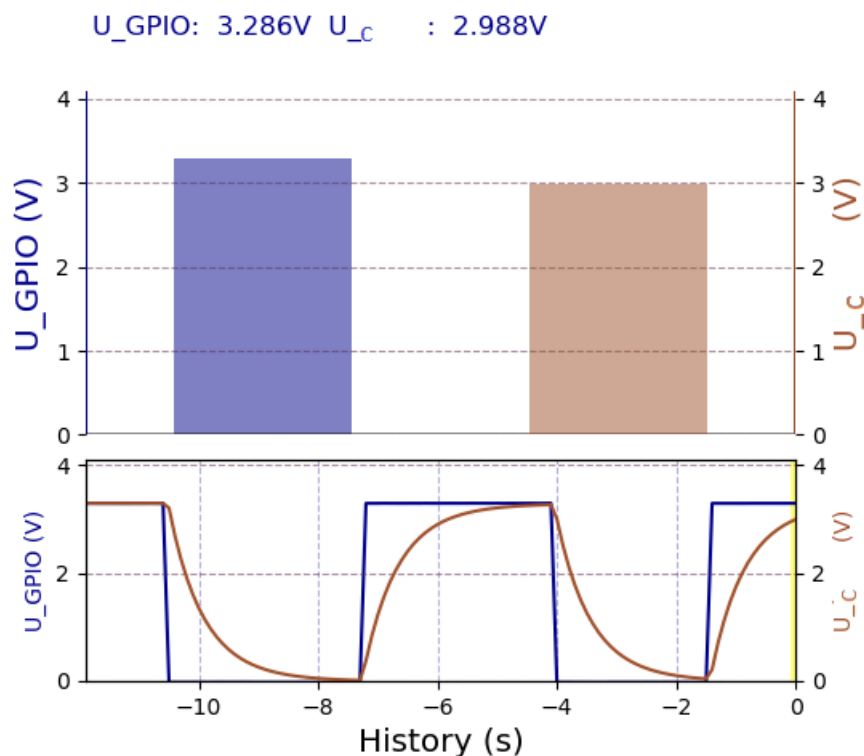

Figure 4. The step voltage pulse generated by the LDR Operated Switch at two pins of the Raspberry and the voltage across the capacitor.
- The values of the LDR resistance fall in bright light causing the enhancement of the voltage across the capacitor during the charging process. The response signal at the GPIO-Pins of the Raspberry Pi as well as the potential difference across the capacitor collected at the sampling rate of 0,1s, shown in Fig.4, are displayed in real-time by choosing the *DataGraphs*-Modul in the ADS1115 configuration. The collected data can be saved in .csv file for a more extensive analysis.
- In the PhyPiDAQ measurement window the duration of charging and discharging for different capacitors can be estimated. Use a torch to activate the Light Dependent Resistor (LDR) Operated Switch. The output voltage from the two pins of the Raspberry Pi changes back and forth from a constant positive value to a constant zero volts, as shown in the Figure 4.